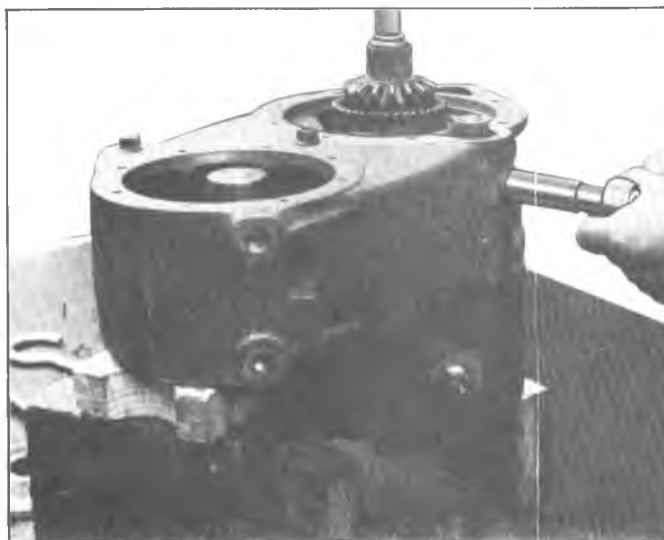

Fig. 8F—Removing or Installing Poppet Ball Plug
9. Remove shift rail poppet ball plug, gasket spring and ball from case (Fig. 8F). A small magnet may be used to remove ball from case.